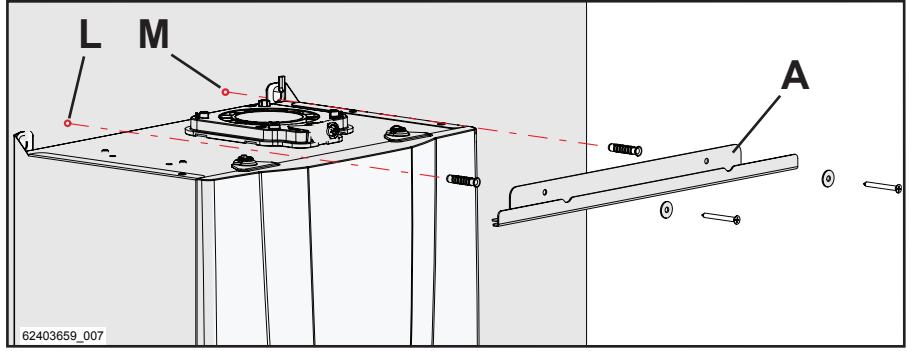

Figure 5-37
- 4 - Fasten upper fixing bracket "A" to the wall, using the dowels supplied in the kit, as shown in figure 5-37;